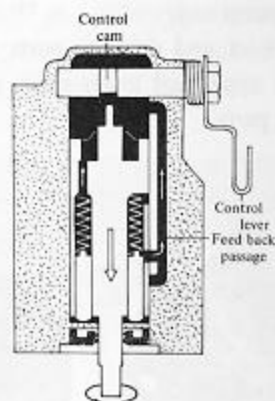

Fig. 6-9 Feed-back passage
order to meet this requirement, oil for each one delivery to the crankshaft and the cylinder is returned to the original place within one(1) rotation, and the total delivery time is kept at six(6). See Fig. 6-9.